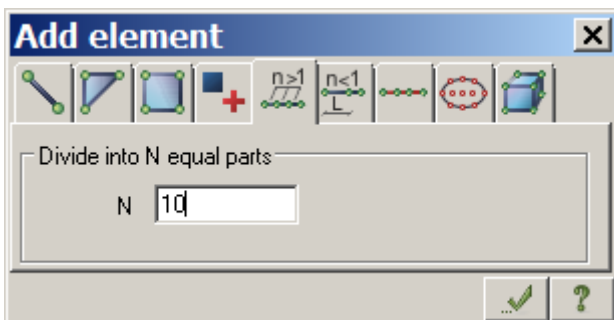

Figure 4.6 Add element dialog box
- ⇒ In the **Add element** dialog box, select the fifth tab **Divide into N equal parts** (see Fig.4.6) and specify the value:
- ⇒ To divide selected bars into 8 parts, in the **Add element** dialog box (see Fig.4.6), specify the value: